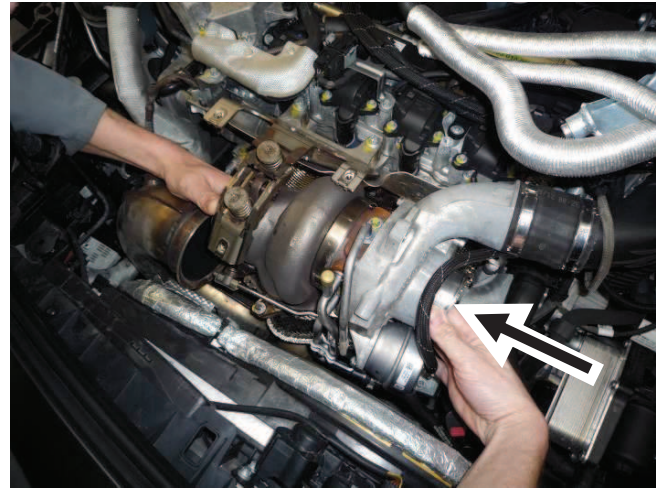

Figure 2
6. Push turbocharger shaft back and forth repeatedly by hand to relieve any residual oil pressure (Figure 2).
7. To prepare for subsequent measurement, slide shaft up to end stop in direction of turbine (direction of arrow, Figure 2) by exerting pressure by hand on compressor impeller shaft in.